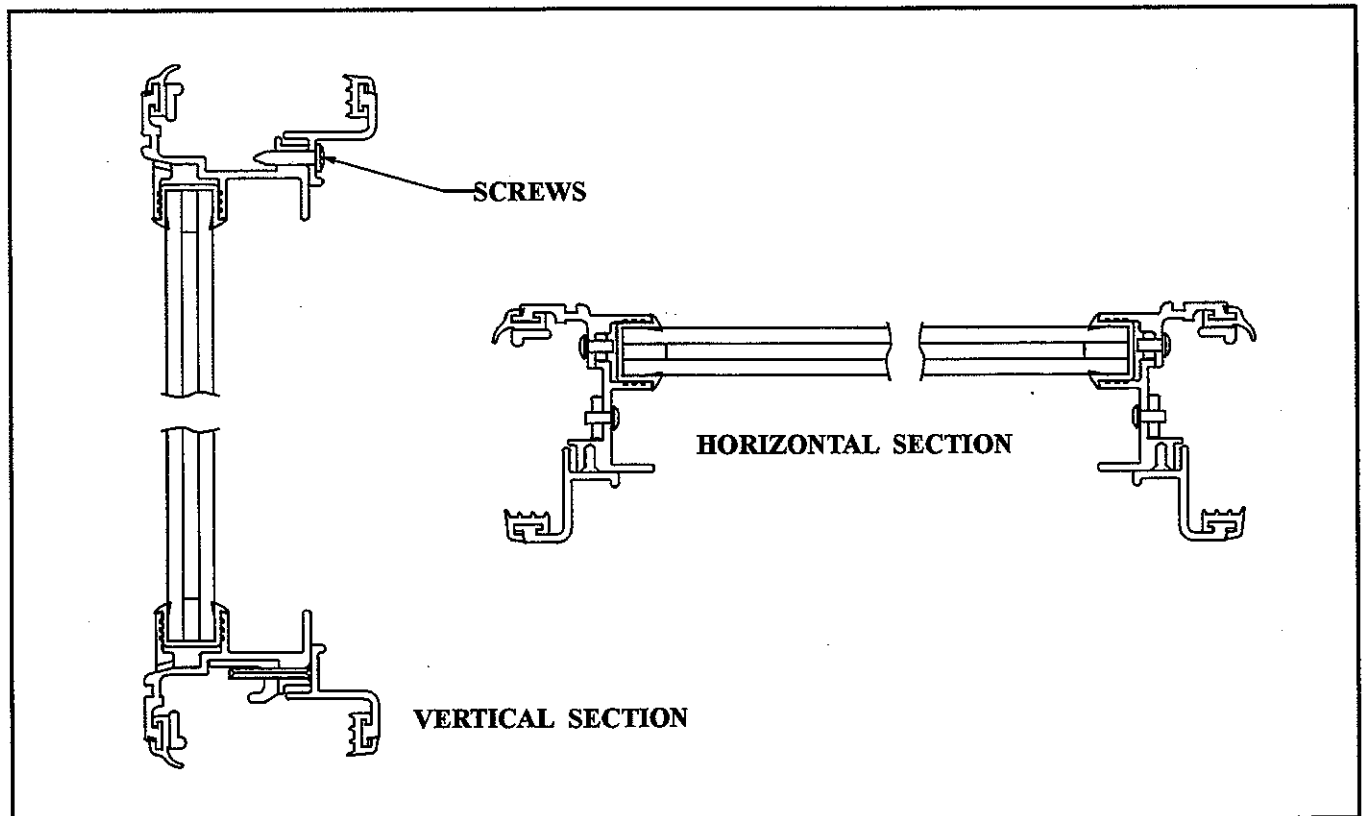

Figure 2—Stationary Transit Sliding Window
1. Remove all screws between the inner frame and outer frame. (See Figure 2—Stationary Transit Sliding Window.)